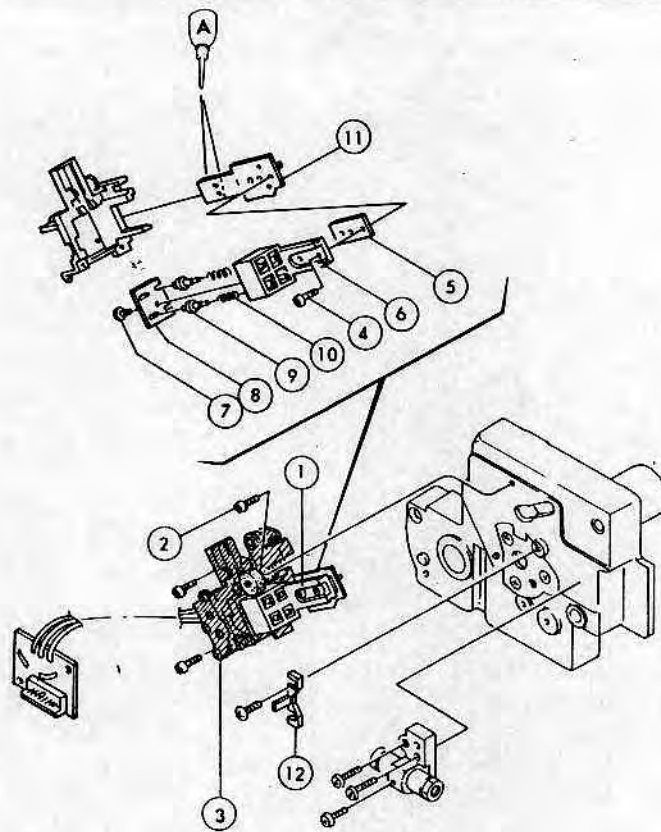

FIG. 17
TROUBLESHOOTING: (Refer to Fig. 17)
3. For further disassembly, refer to Fig. 17.